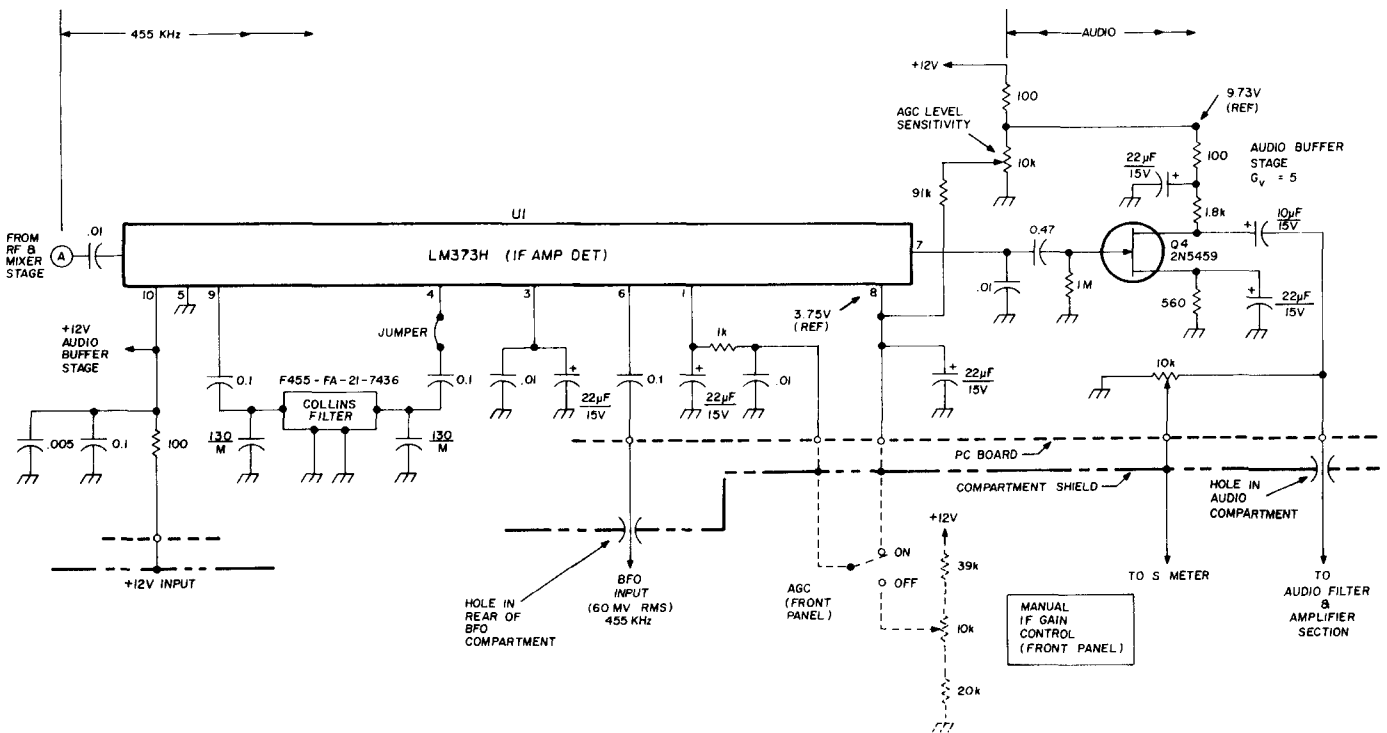

fig. 4. I-f amplifier, detector, and audio buffer schematic.
**I-f amplifier.** I-f amplifier gain and bandpass filtering is accomplished with an LM373H IC and a narrow bandpass Collins mechanical filter (**fig. 4**). The LM373H (U1), in addition to providing high i-f gain, also acts as the detector for both CW and ssb. Incorporated in its design is the ability to use agc or external manual i-f gain. An agc-level sensitivity control is included.